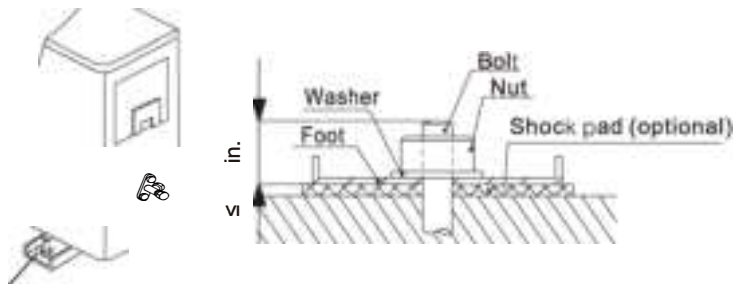
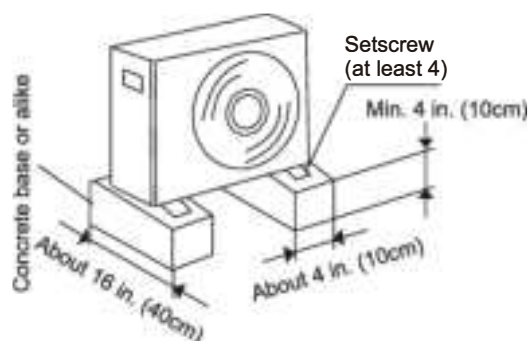

Fig.2
Fig.3
- (3) Fasten the outdoor unit as shown in Fig.2.
- (4) Make sure to fasten the outdoor unit tight and level to prevent noise from occurring.
- (5) Do not drain off water to the public places to hazardous slips/falls.
- (6) The strong base (made of concrete, etc.) should be made. The appliance should be placed not less than 4in. (10cm) high to avoid being wet or corroded. Otherwise, it may cause damage to the appliance or reduce its life time. (Fig.3)